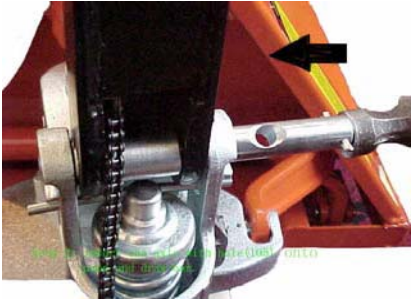

Fig.1
1 - Insert the handle (110) onto the pump piston (303), then use a hammer to insert the axle with hole (105) into the hydraulic pump and handle from right to left - See Fig.1